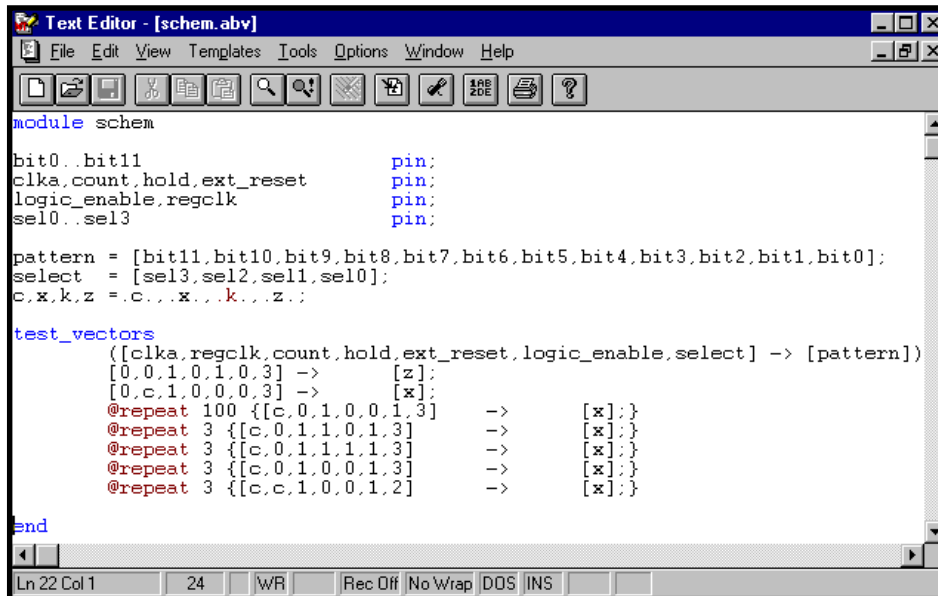

Figure 1-3. Sample Test Vector File
4. Type the syntax for the test vectors in the Text Editor. The keywords and comments are color-coded. Figure 1-3 shows a sample test vector file.